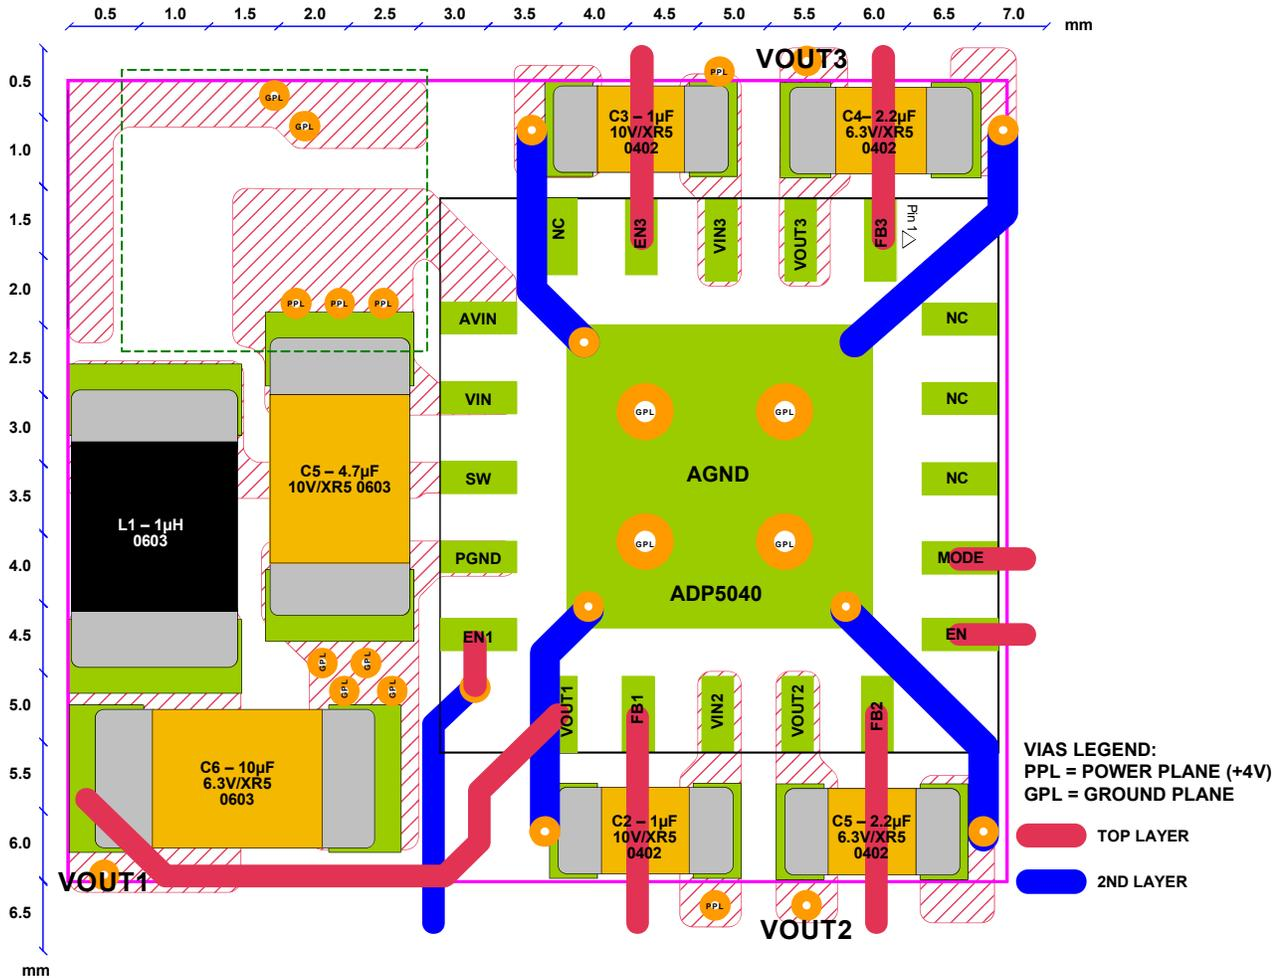

Figure 109. Evaluation Board Layout
The typical  $\theta_{JA}$  value for the 20-lead, 4 mm × 4 mm LFCSP is 38°C/W (see Table 6). A very important factor to consider is that  $\theta_{JA}$  is based on a 4-layer, 4 inch × 3 inch, 2.5 oz copper, as per JEDEC standard, and real applications may use different sizes and layers. To remove heat from the device, it is important to maximize the use of copper. Copper exposed to air dissipates heat better than copper used in the inner layers. The exposed pad (EP) should be connected to the ground plane with several vias as shown in Figure 109.
- See Figure 109 for an example layout.